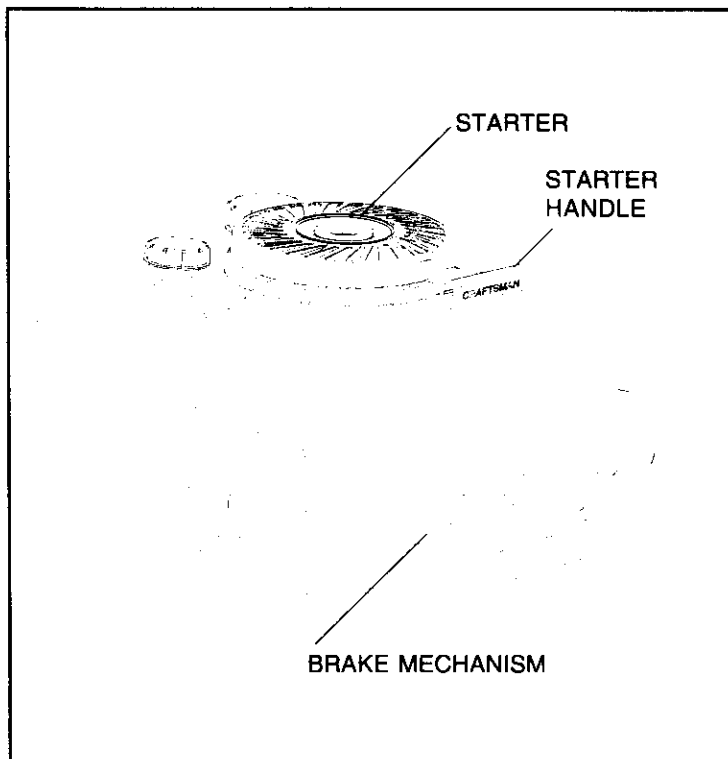

Figure 2
### ② INSTALL ENGINE BRAKE CABLE AND STARTER ROPE: BRAKE CABLE (see Figure 2): Attach engine brake cable to brake mechanism as shown.
4. a) **RECOIL STARTERS:** Grasp starter handle (figure 2) and pull rope out slowly until you feel drag. Let rope rewind slowly. Pull rope with rapid, full arm stroke. Return rope slowly to original position.